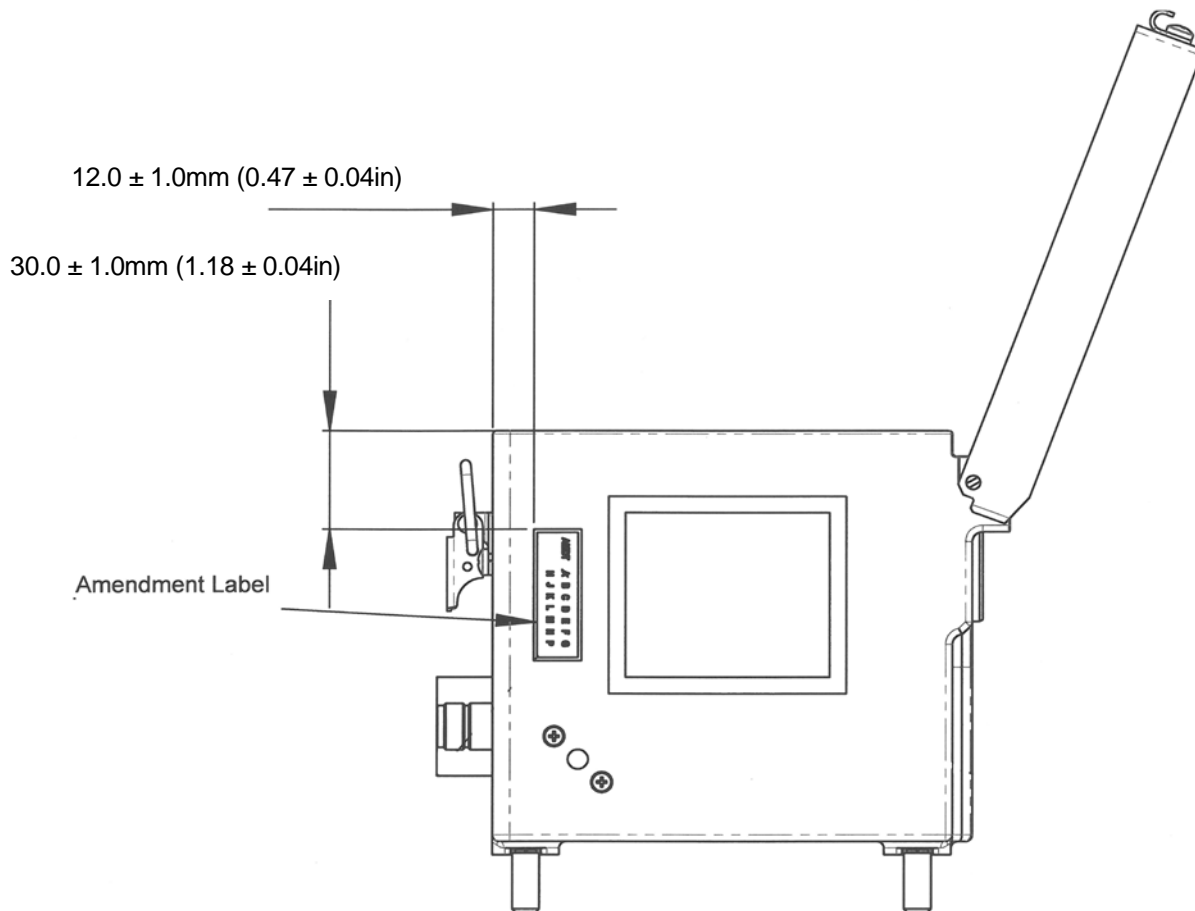

FIGURE 1 - Amendment Label - Location
(1) Steering Disconnect Panel – Disassembly (IPL Figure 1).
(2) Toggle Latch Strike – Embodiment (IPL Figure 1)
- (b) Remove the Toggle Latch Strike (25) from Steering Disconnect Panel (1) access door, as instructed in Para 5.B.(1).
- (c) Retain the attaching parts, but discard the Coil Spring Washers (40) x2 and Nuts (45) x2.
- (d) Refit the Toggle Latch Strike (25) to Steering Disconnect Panel (1) access door and attached with Screws (30) x2. Install in the following order; Plain Washer (35) and new Self-Locking Nut. Torque tighten to 3.0 ± 0.3 Nm (26.5 ± 2.6 lb.in.).
- (1) Steering Disconnect Panel – Assembly (IPL Figure 1).
- (1) If the Steering Disconnect Panel is fitted with an Amendment Label go to Para. 3.D.6.
- (2) If the fitment of an Amendment Label is required, carry out the following instructions.
- (3) Refer to Figure 1 and locally clean the area with IPA and allow to dry. Make sure the area is clean and free of grease.
- (4) Remove protective backing from the new Amendment Label and place in position as shown in Figure 1.